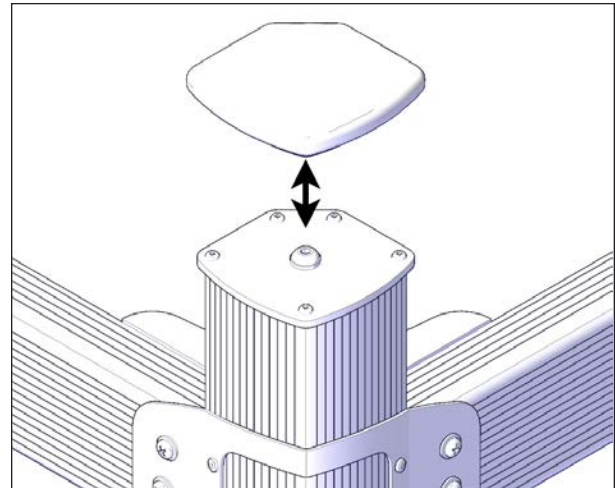

FIGURE 86: RUBBER CAP REMOVAL
2. Remove rubber cap on top of each post see Figure 86.